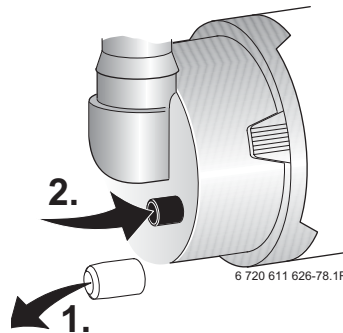

Bild 47
- ▶ Unscrew the two fixing screws and carefully remove the electrode assembly. Refer to fig. 47.